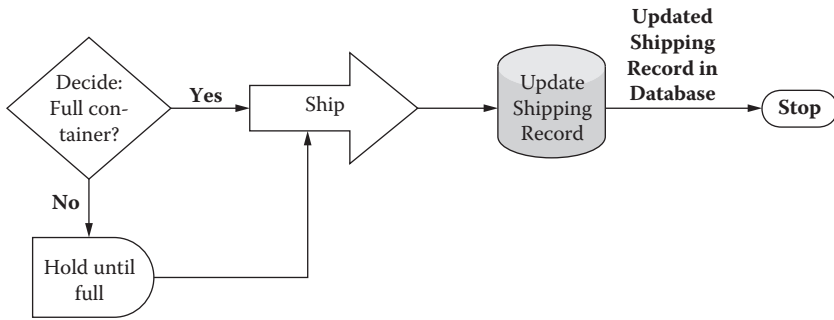

Figure 6.9 Identify the output.
7. Identify the output of the workflow (Figure 6.9).